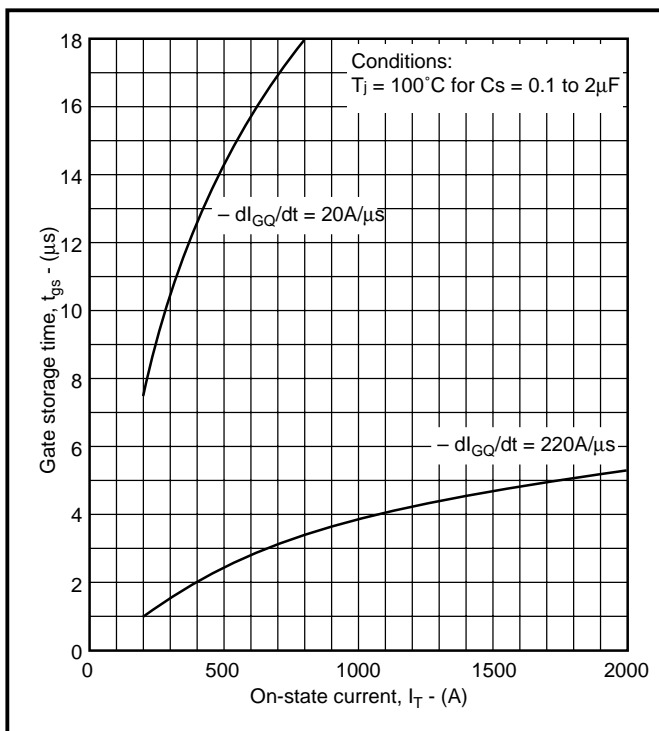

Fig. 7 Gate storage time vs on-state current
3. The reduction in storage time, t_{gs} , is very marked between $di_{gt}/dt = -40A/\mu s$ and $-250A/\mu s$, typically a factor of 6. It follows that as Δt_{gs} also reduces by a factor of 6 then C_s can be reduced by the same factor for the same change in ΔV . Figure 7. However, by the law of diminishing returns further